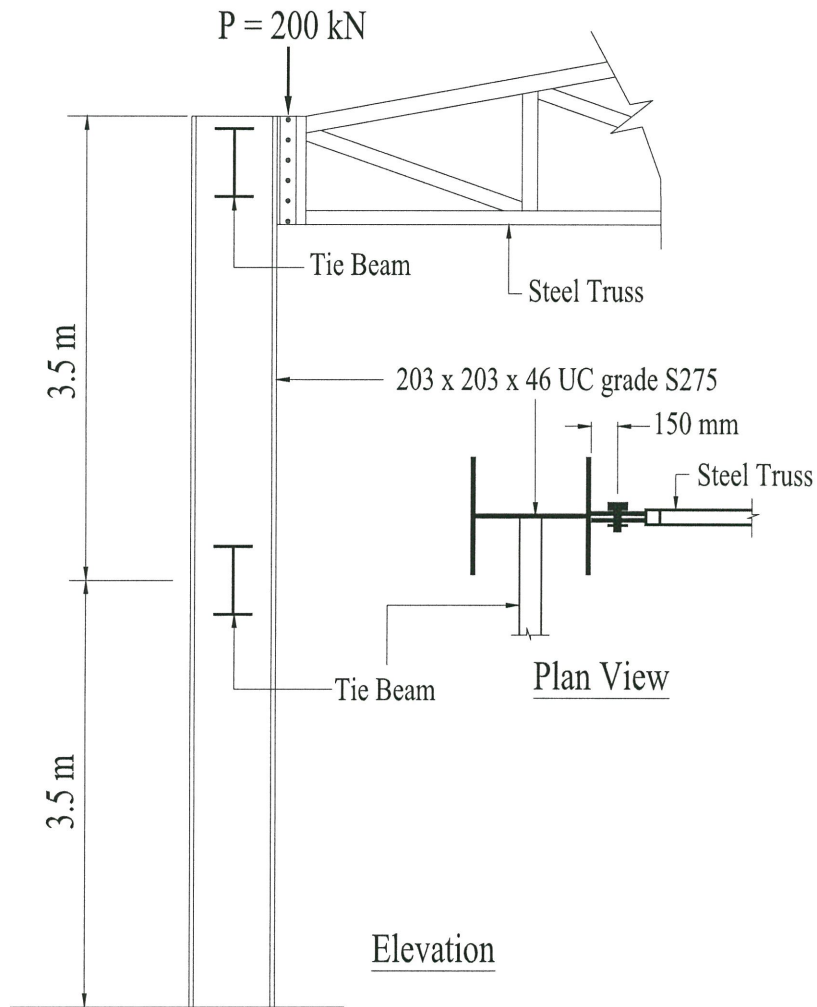

FIGURE Q6
- Q6** The column shown in Figure Q6 is restrained from rotating about the minor axis at the top and mid-height using tie beams. The design axial force, P of the column resulting from the reaction of the roof truss is 200 kN. The connection between the roof truss and column is considered as simple construction. The column is nominally pinned at the top, the base and mid-height. A S275 $203 \times 203 \times 46$ UC section is proposed for the column. Check the capacity of the proposed section and determine whether the section is adequate in resisting the combined actions of axial compression and nominal bending moment. Ignore the self-weight of column and tie beams. Use the following given simplified interaction criteria.